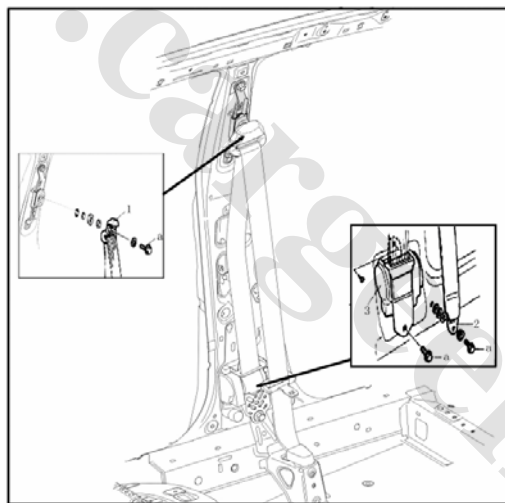

Fig. 7-3
1. Removal: As shown in Fig. 7-3